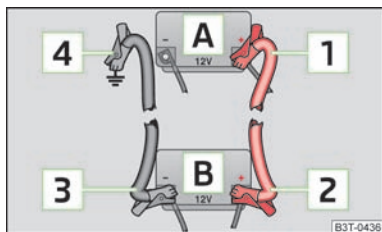

Fig. 156
- > Attach one end » Fig. 156 to the positive terminal of the discharged battery .